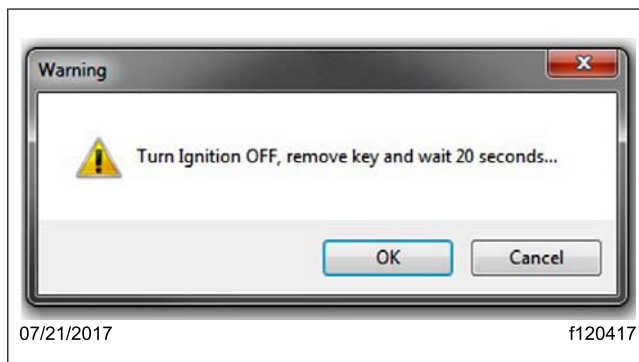

Fig. 7, Turn Ignition OFF Message
9. A warning message appears as shown in Fig. 7. Turn the ignition to the "OFF" position, remove the key and select "OK."